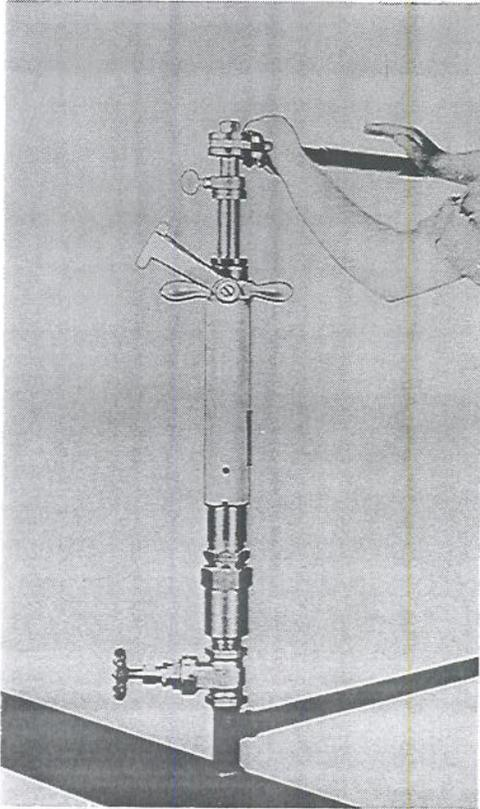

FIGURE 17
8. Reverse ratchet and turn the ratchet handle **counter-clockwise** to take up the slack. Hold in this position with one hand and strike the end of the ratchet handle a sharp blow **counter-clockwise** with the other hand. **Figure 17.**